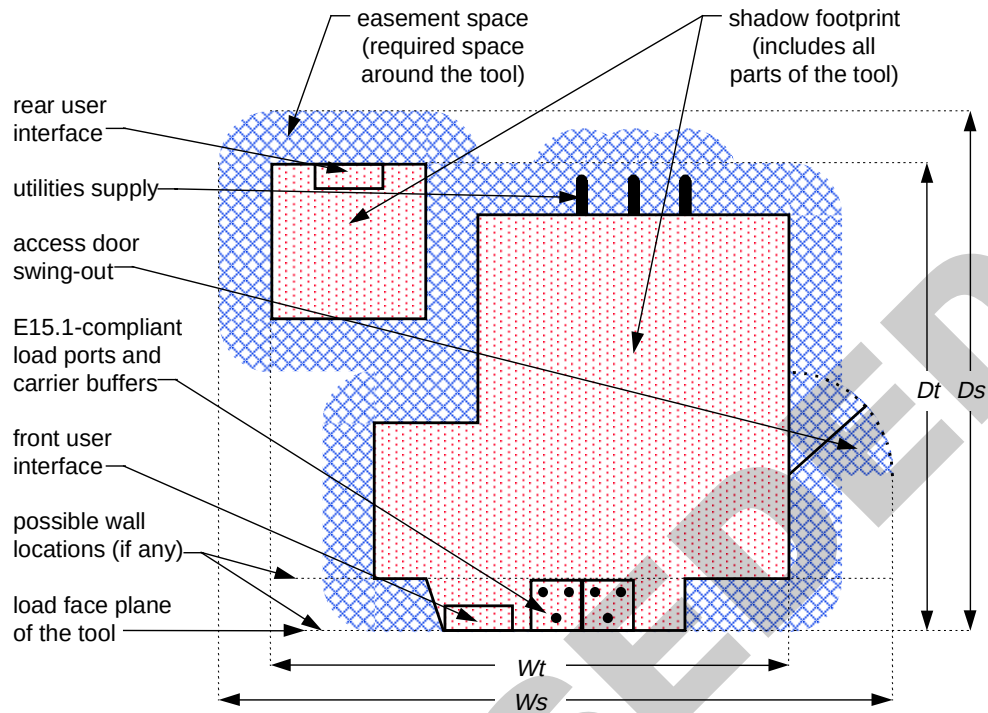

Figure 1
4.1 *cost footprint* — The area (A) of the smallest horizontal rectangle that contains all of the shadow footprint and half of the easement space around the equipment (for use as the floor space metric in Cost of Ownership calculations). As shown in Figure 1, this is computed as
4.3 *easement space* — The floor space that must remain clear to the rear and sides of the equipment (but not in front of the load face plane). This includes safety aisles, ergonomic maintenance access space, component removal space, and room for doors to swing out (see Figure 1).
4.5 *shadow footprint* — The area of the floor space directly under every part of the equipment during its operation (see Figure 1). This includes any temporary projections from the equipment during loading or processing (such as carriers that stick out from the equipment or equipment load ports that protrude only when the equipment is being loaded).